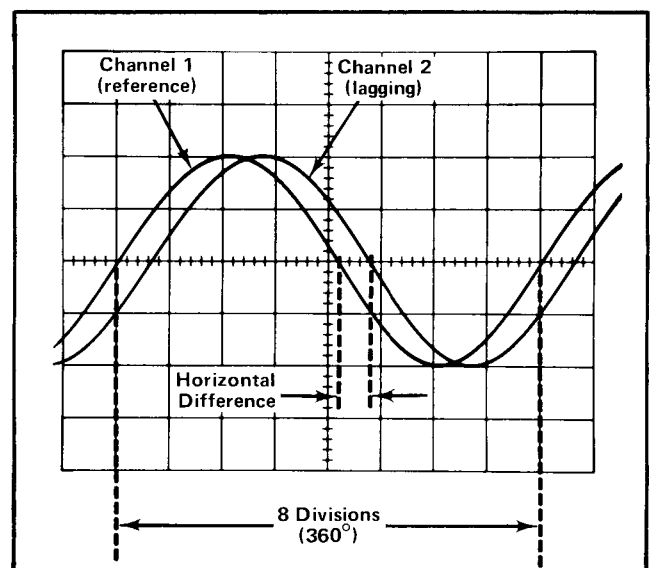
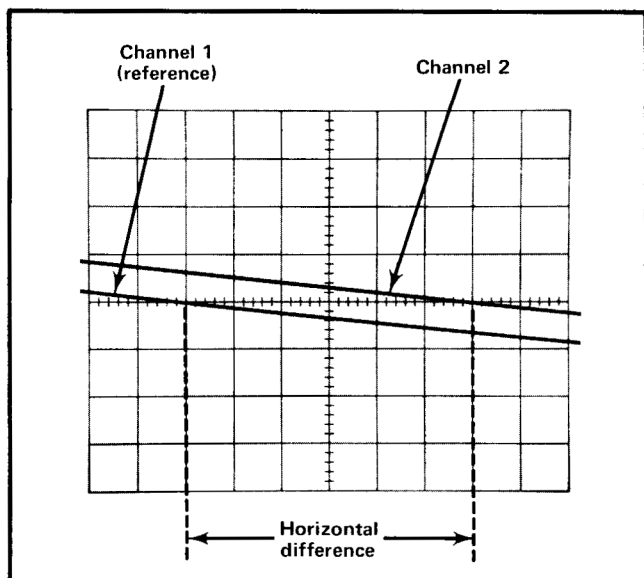

Fig. 2-26. Measuring phase difference.
Fig. 2-27. High resolution phase-difference measurement with increased sweep rate.
10. Turn the A VAR control until one cycle of the reference signal (Channel 1) occupies exactly eight divisions horizontally (see Fig. 2-26). Each division of the graticule represents 45° of the cycle ($360^\circ \div 8 \text{ divisions} = 45^\circ/\text{division}$). The sweep rate can be stated in terms of degrees as $45^\circ/\text{division}$.
Example. Assume a horizontal difference of 0.6 division with a sweep rate of $45^\circ/\text{division}$ as shown in Fig. 2-26.
Example. If the sweep rate were increased 10 times with the magnifier, the magnified sweep rate would be $45^\circ/\text{division} \div 10 = 4.5^\circ/\text{division}$. Fig. 2-27 shows the same signals as used in Fig. 2-26 but with the MAG switch set to X10. With a horizontal difference of six divisions, the phase difference is: